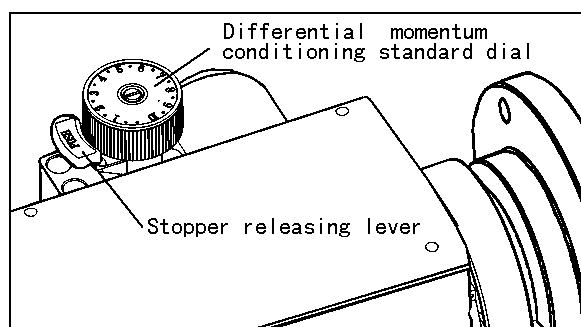
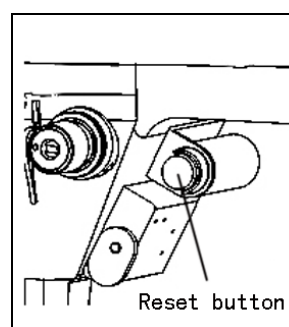

Fig. 37
Fig. 38
(3) Adjustment of knife engagement pressure:
31、 Adjustment of top Differential regulation of devices (Fig. 37、 38)
1) If adjusting the differential momentum, you should first press the differential reset button (Figure 38) ,on differential device in a state of non-shrink joints, and then press as shown in Figure 37
32、Ruffling sewing reset (Fig. 38)